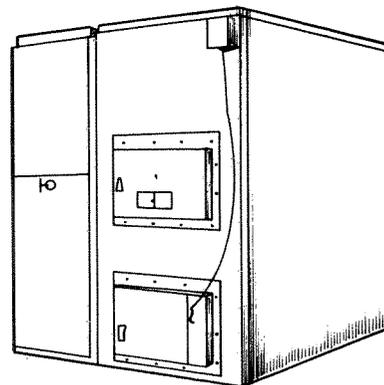

Fig. 78. Duo-Matic Model CWO multifuel furnace.
7. **Duo-Matic Division** (manufacturer), 2413 Bond St., Park Forest South, IL 60466, and Duo-Matic of Canada (manufacturer), Waterford, Ontario, Canada NOE 1Y0. Duo-Matic's furnace (Fig. 78 and Table 10) has two combustion chambers, one for oil or gas and the other for wood or coal, with two thermostatic controls for automatic switchover from wood or coal to oil or gas. Oil or gas burner will not become fouled with ashes or soot from wood/coal chamber. Regular-size air filters. Solid-fuel chamber has cast-iron grates. Heat exchanger is standard, as is a "heat-limit control" device which prevents excessive temperatures by automatically closing the damper. Company also manufactures the DWO combination furnace which cannot burn coal, and a furnace for wood-burning only, which comes with or without its own blower section. The latter is available for immediate shipment, the company says. Presumably, the other models are only available on order.